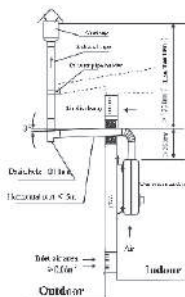

Fig.10
2) The flue exhaust pipe should be high temperature resistance(over 200°C) and rust-proof(Fig.10).